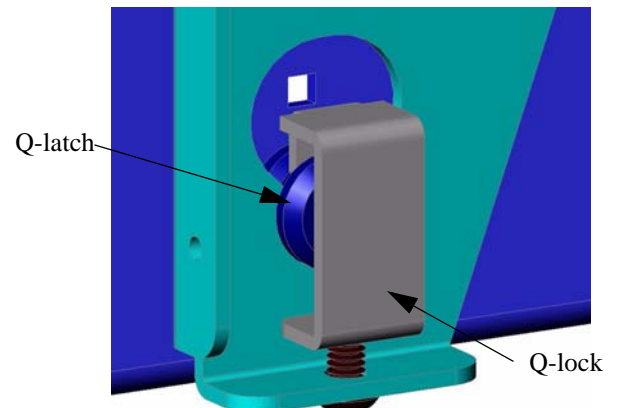

Figure 4. Install Q-Lock
- Lock the display in place by installing two Q-clamps on each side of the bottom of face plate as shown in Figure 4.